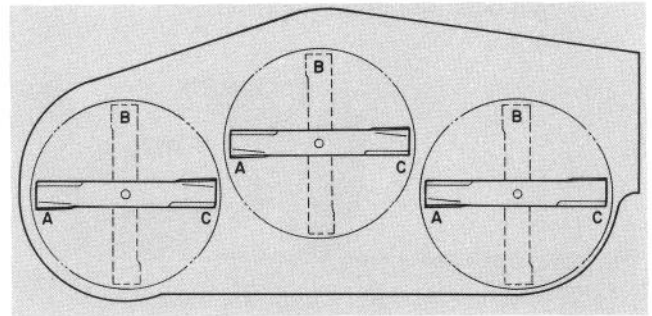
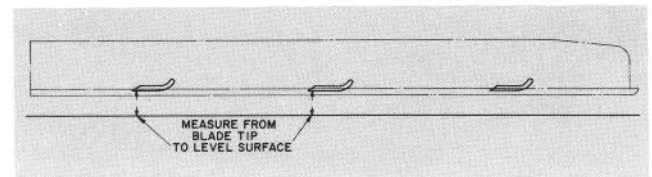

Figure 25
Figure 26
5. Position all three blades in the "A" position (Fig. 25) and measure from level surface to the bottom of the tip end of each blade (Fig. 26).
6. Note measurement attained at "A", rotate blades to "B" position (Fig. 25), measure distance of all blades to level surface and note dimensions (Fig. 26).
7. Rotate blades to "C" position, measure and note distance measured (Fig. 25, 26).